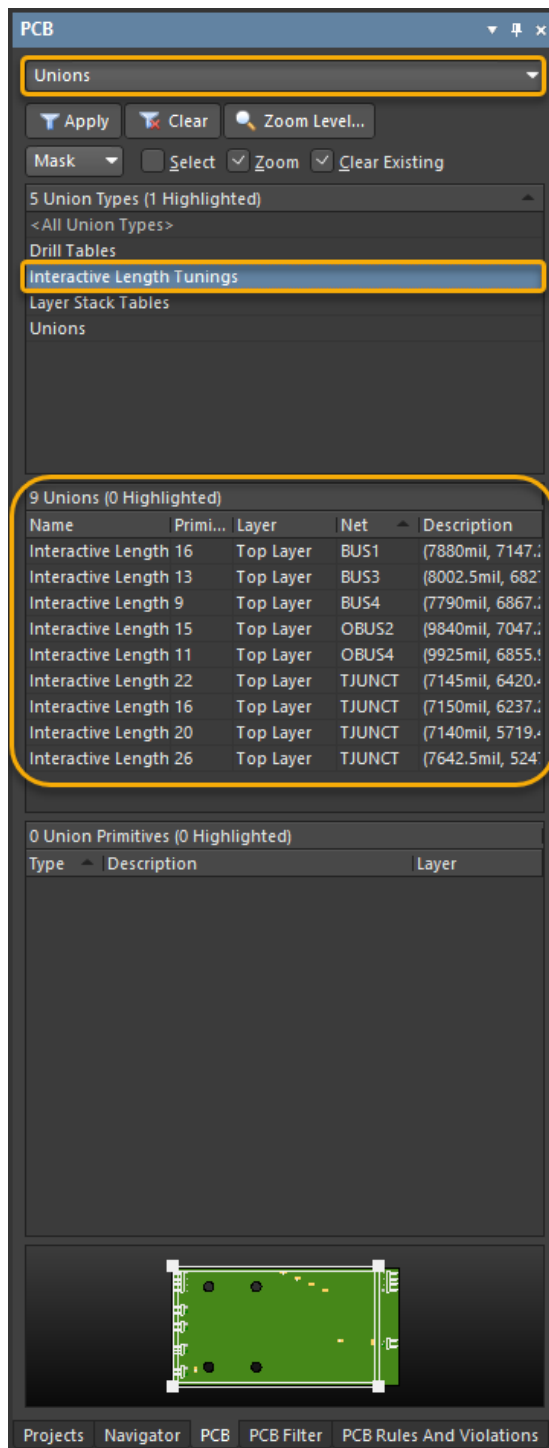

Figure 27. Union PCB Panel
74. Still in the *PCB* panel, select **Unions** from the drop-down menu as shown in Figure 27.